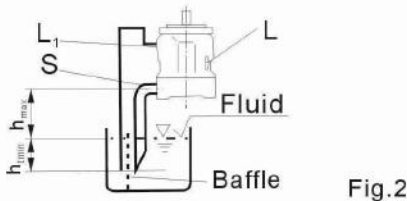

Fig. 2
- b) If the minimum fluid level is below the pump mounting face pipe port "L₁" and "S" according to Fig. 2. Close port "L" with respect taking into consideration conditions in 1.2.1.
Before installation fill the pump housing, keeping it in a horizontal position. For mounting above reservoir see Fig. 2.